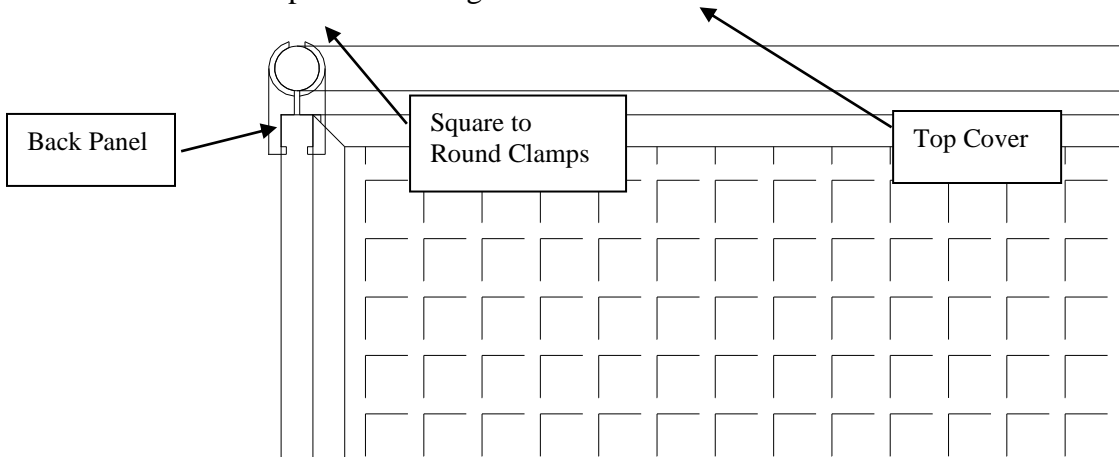

Figure 23
2. Using Square to Round clamps, 5/16"-18 x 1-3/4" galv. carriage bolts, and 5/16"-18 nuts, connect the back tube of the top covers to the top of the back panels. Place clamps approx. 3" from the division panels. See Figure 23.